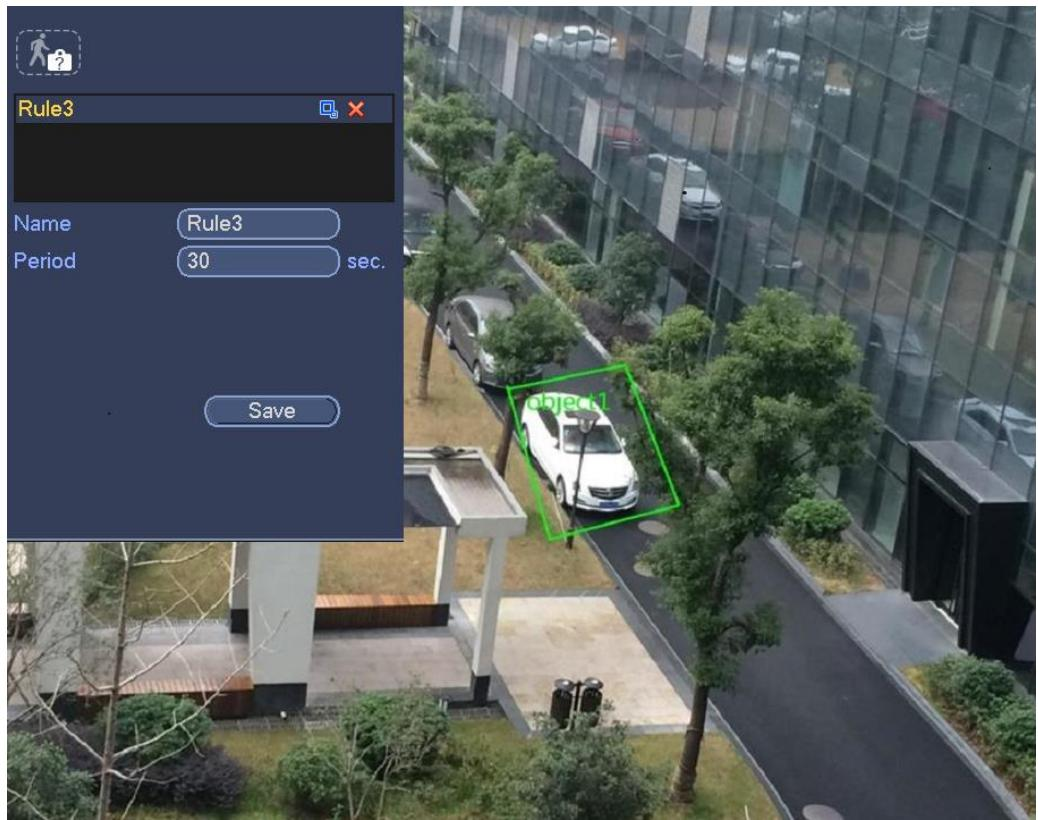

Figure 4-153
1. Click Draw button to draw a zone. See Figure 4-153.